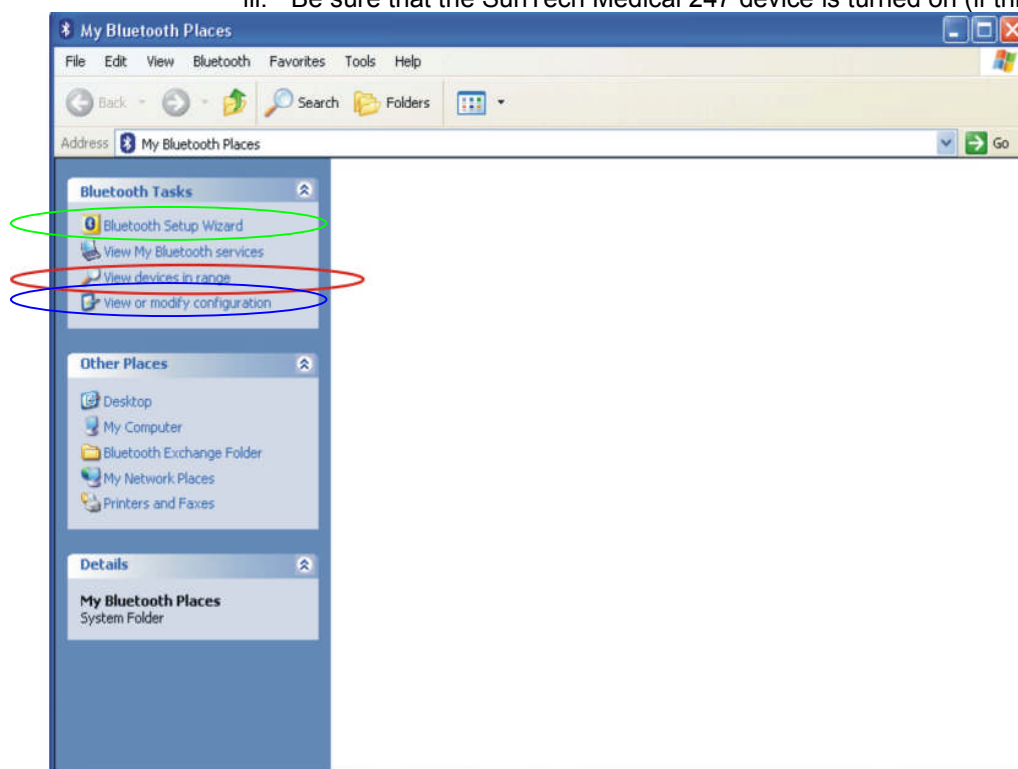
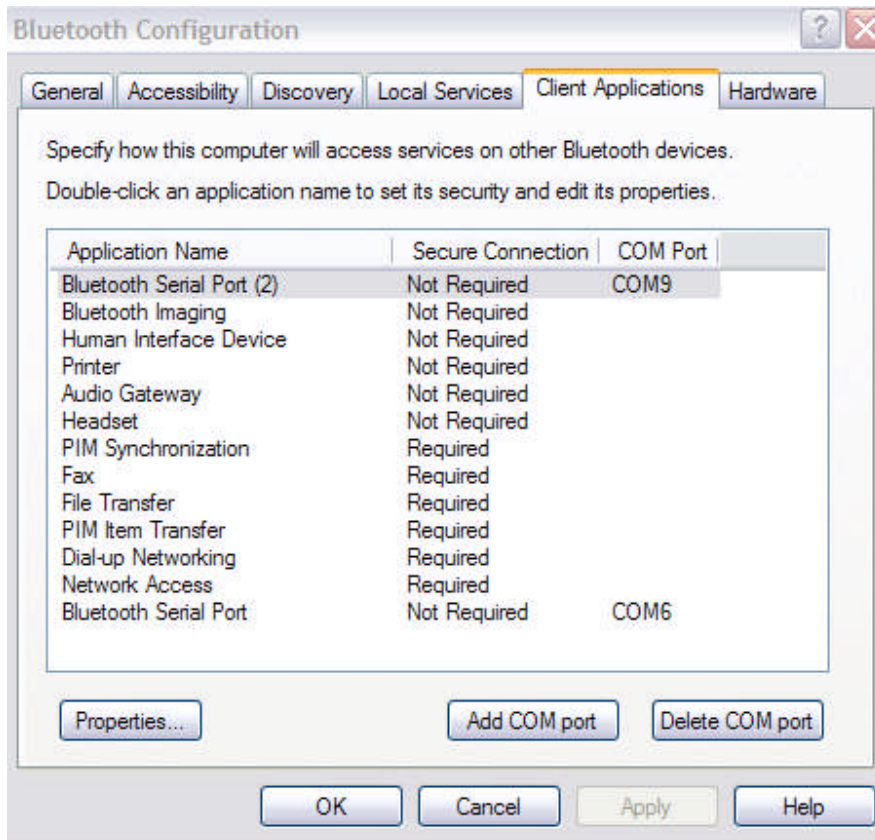

Figure 4: My Bluetooth Places screen
Figure 4a: Bluetooth configuration screen
- i. Upon double-clicking the Bluetooth icon, a window labeled “My Bluetooth Places” appears (Figure 4).
- i. In the panel “My Bluetooth Places” click on “View or modify configuration” (**Figure 4, blue circle**). The screen shown in Figure 4a opens.
- i. In the panel “My Bluetooth Places” (**Figure 4**), click on “Bluetooth Setup Wizard”. (green circle)